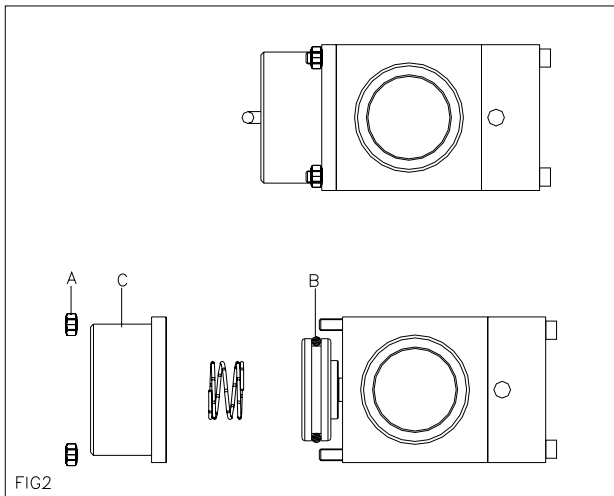

FIG2
- 1.First , remove the four hex nuts(FIG2 A).
- 2.Second , apply small amount of grease to o-ring(FIG2 B).
- 3.Next , apply small amount of grease to inside well of piston housing(FIG2 C).